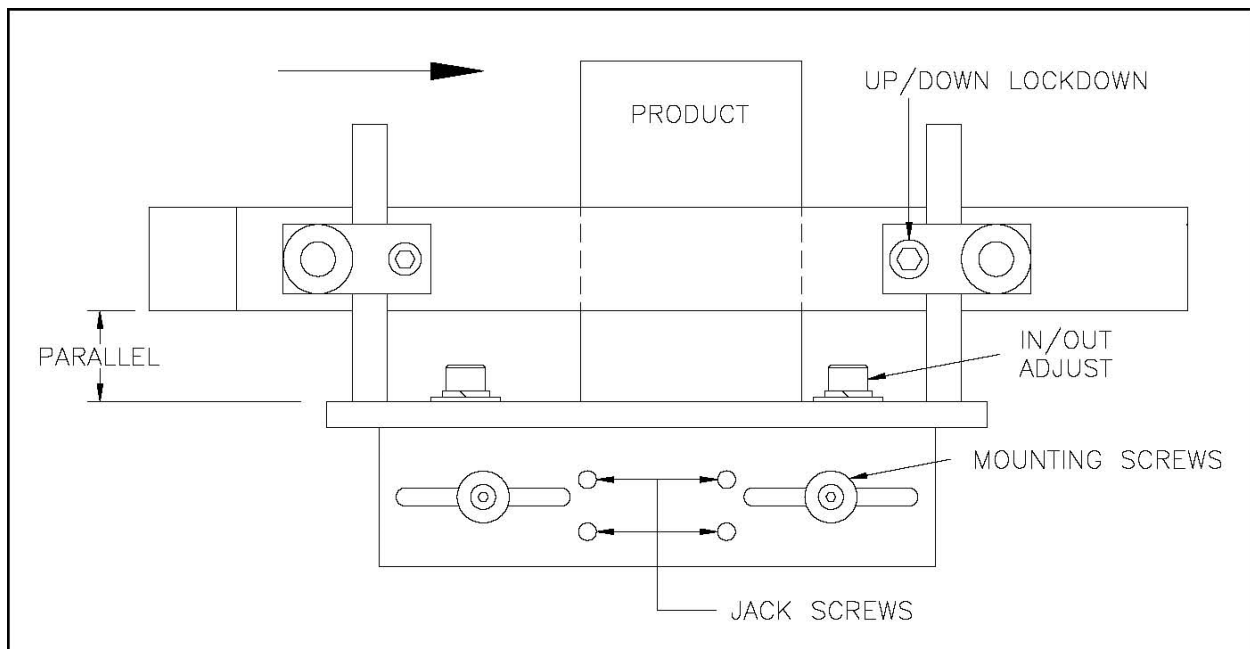

Figure 54 Pressure Bar Adjustments
4. Refer to Figure 54 and check that the pressure bar is parallel to the product.